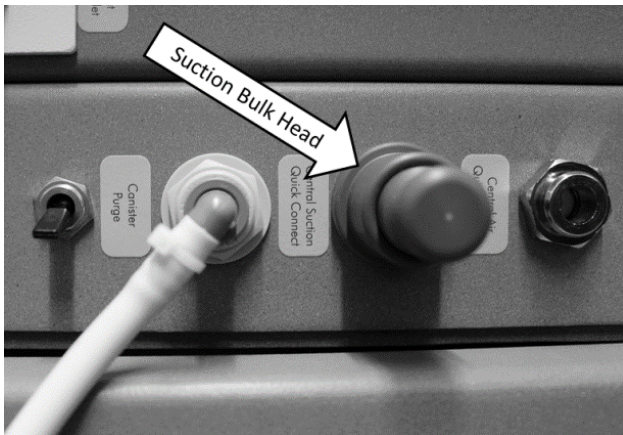

Fig. 5
- Depending on the date of manufacture of your cart, remove the suction bulkhead from the chassis (Fig. 5) or remove the hole plug, or knock out the 1.25" hole knockout on the back panel.